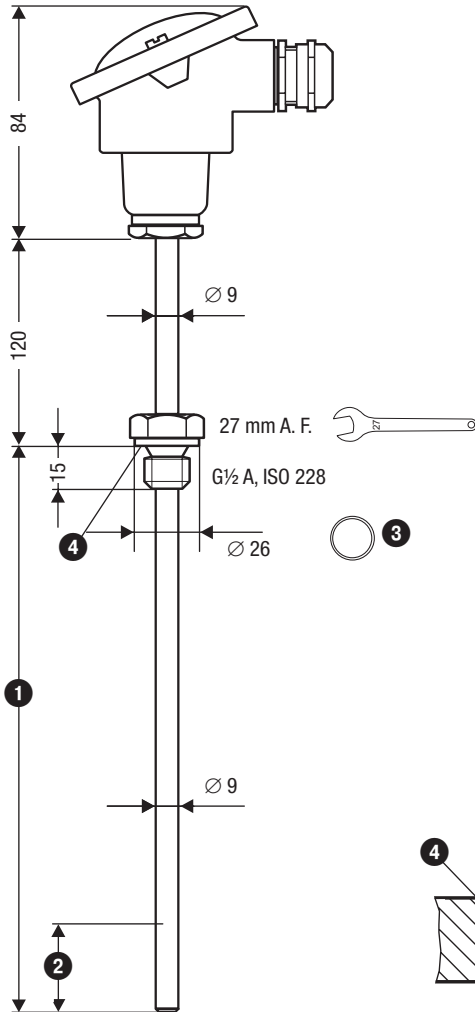

Fig. 2
- Install the temperature sensor such that the temperature-sensitive part (2), (6) is permanently immersed in the fluid. **Fig. 2 and Fig. 4**